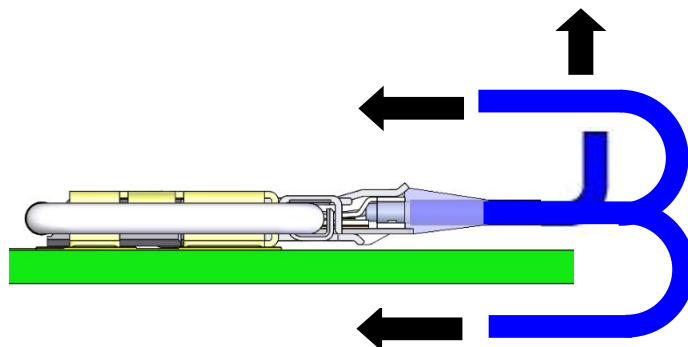

Fig. 18
4. Do not apply the continuous stress to the connector as shown in Fig.18.